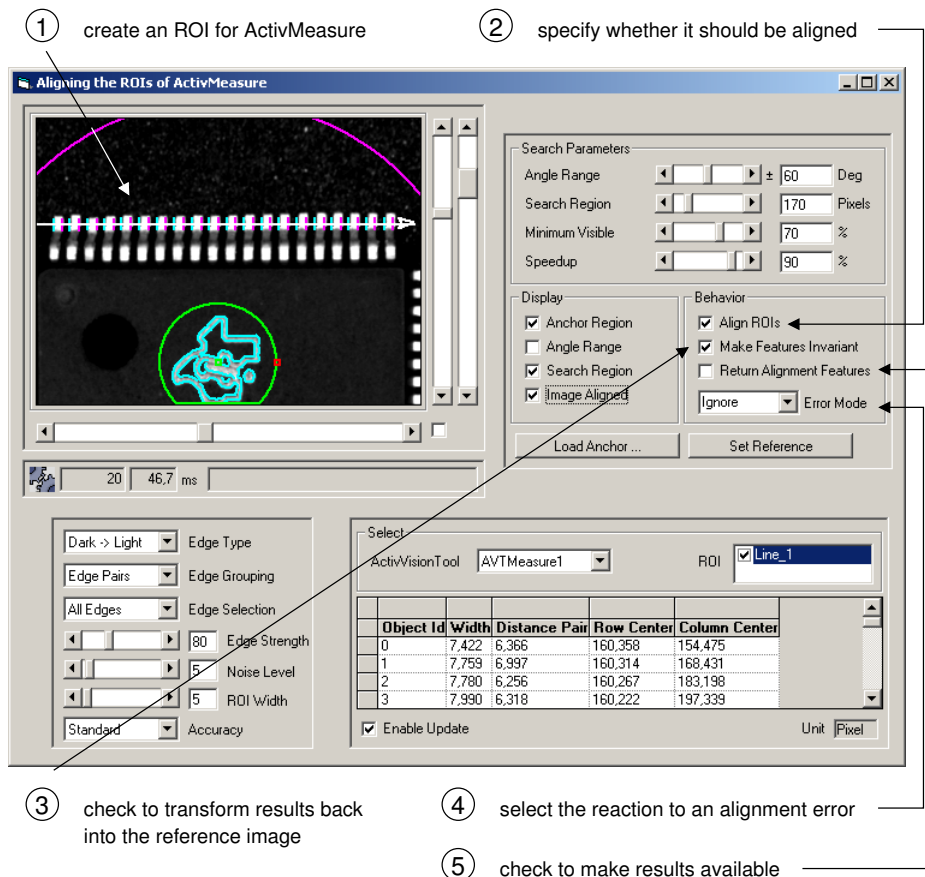

Figure 3.1: Aligning a measuring ROI to an IC.
The following steps are visualized in figure 3.1.
- ① To create an ROI for ActivMeasure, open AVTViewROI by clicking into AVTView with the right mouse button and selecting Region of Interest. Select AVTMeasure1 in the combo box ActivVisionTool and create a line-shaped ROI over the pins of the IC as shown in figure 3.1. Automatically, the measured width of the pins, the distance between them, and the position of their centers is displayed in ActivDataView.
- ② Check ☒ Align ROIs to let the ROI be aligned. If you step through the image sequence by clicking `Single` in AVTViewFG, the measuring ROI should now always lie over the pins.
- ③ If you check ☒ Make Features Invariant, the results of ActivMeasure are transformed back into the reference image (see section 1.1 on page 2). The effect can be seen clearly in the column Row Center: In the reference image, the pins are lined up horizontally, therefore their respective Row Center varies only by one or two pixels. If you switch to an image where the chip is rotated, the values for Row Center will vary strongly before checking the box, and correspond to the ones of the reference image afterwards.
- ④ For one image of the sequence ActivAlignment fails to find the anchor because of the limited angle range. In the combo box Error Mode, you can choose the desired reaction: If you select 'Ignore', ROIs are not aligned, i.e., the reference position is used.